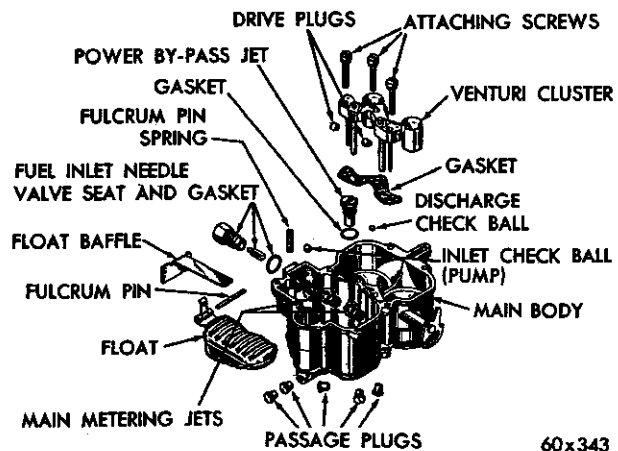

Fig. 11—Main Body (Disassembled View)
5. MAIN BODY ASSEMBLY (Fig. 11)